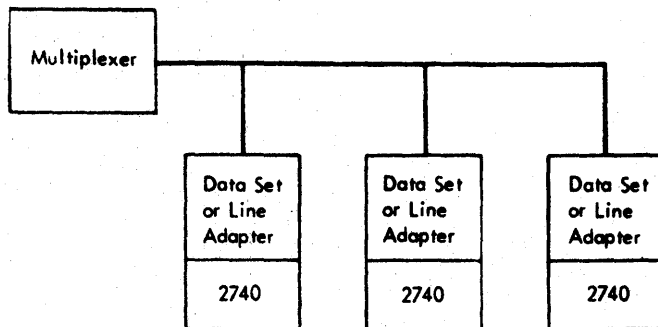

Figure 21. Multipoint-Multiplexer Type
- b. Multiplexer Type: has several 2740's connected to the same line which is also connected to the multiplexer of a computer (Figure 21). The multiplexer selects the terminal to become the transmitter (because only one can transmit at a time). All or selected terminals can receive data from the multiplexer.